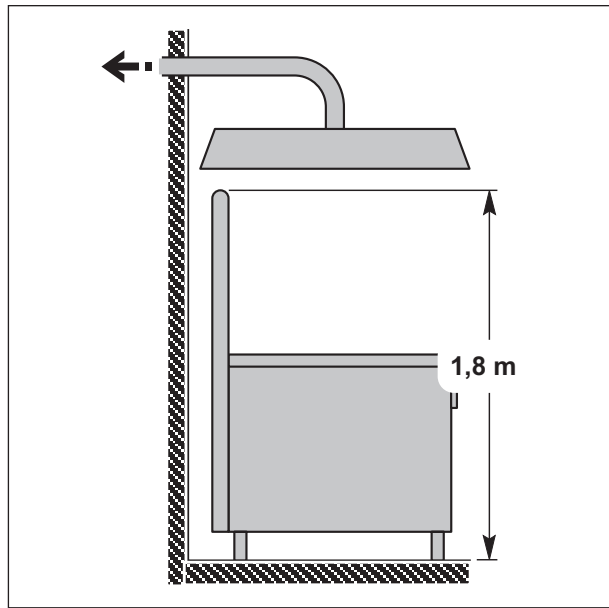

Fig. 20 Fume extraction through extraction hood
- The final part of the appliance extraction duct must be about **1.8 m** from the appliance support surface; the outlet of the combustion product extraction duct must be placed within the basic perimeter of the hood (see *Fig. 20 Fume extraction through extraction hood*).